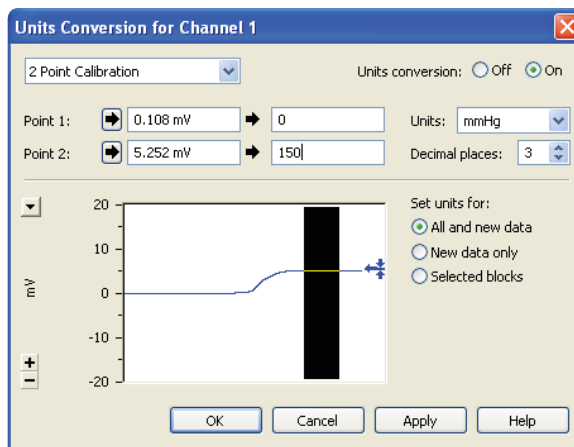

Figure 2
11. Select an area of the recording which contains the two known pressure levels and click on Units Conversion. The Units Conversion Dialog will display the recording that was selected (as in Fig. 2).